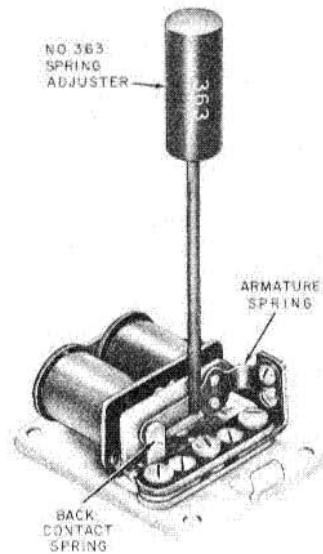

Fig. 18—Adjusting Armature Spring
**4.10** The contact separation of buzzer and bell operated on direct current is approximately 0.005 inch when armature is held manually against pole face. Adjust as required by applying a No. 363 spring adjuster close to base of the spring as shown in Fig. 18. Give adjuster a slight twist in direction desired. Take care not to kink spring.**4.11** Armature spring tension may be adjusted as follows.